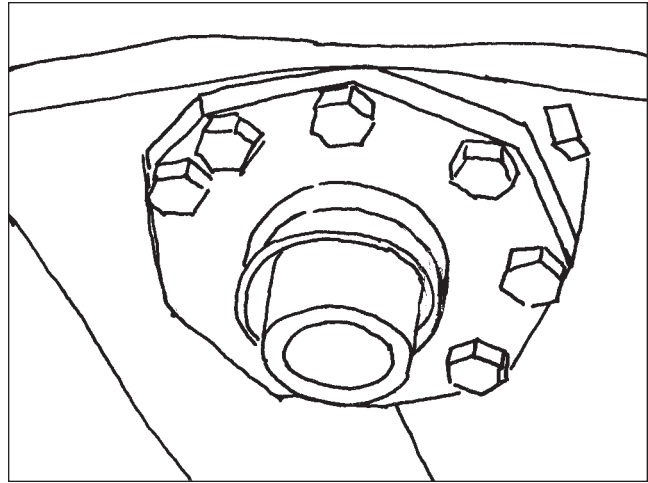

Figure 32
16. Install the rubber boot over the sector shaft. Pack grease under the lip of the boot before installation (**Figure 32**).